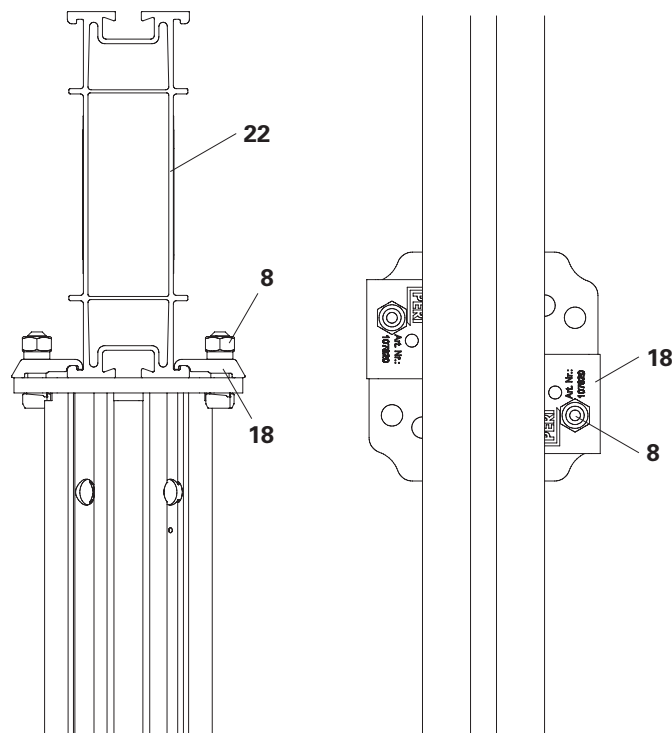

Fig. A6.02
Assembly takes place with two diagonally-arranged Straps MP MB 24 (18) and Screw with Nut MP (8). (Fig. A6.02)